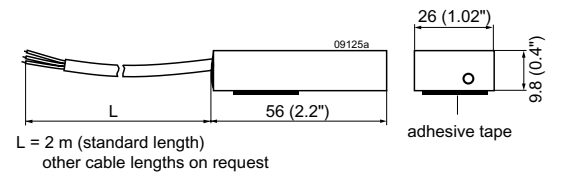

Fig. 51
- Different battery sensors S-KSMH... for using the converter as a battery charger. Different cell characteristics can be selected; see fig. 51, table 27, and Battery Charging/Temperature Sensors.